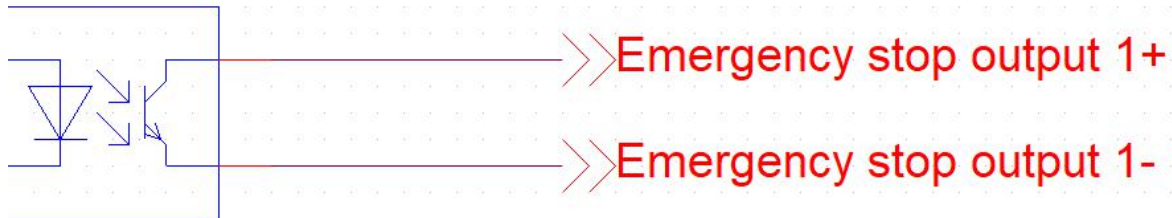

Figure 2-6
- The SRC-880 has a set of independent dry contact switches, which are used as emergency stop output signals. The output signal pins are distributed at 13/14 pins of J2 connector, and the maximum output is 120mA. Emergency stop output logic shows opinion "Figure 2-6".